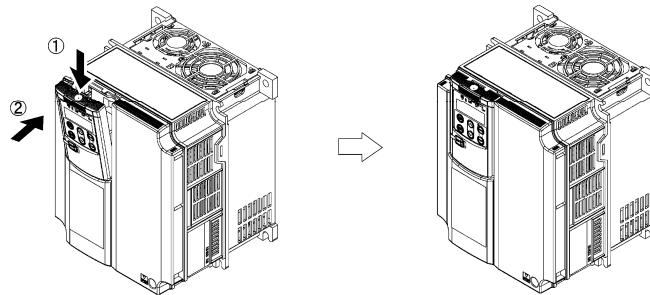

Figure 2.8 Mounting the remote keypad on the inverter (In case of FRENIC-MEGA series)
■ Mounting the remote keypad on the inverter (Figure 2.8)